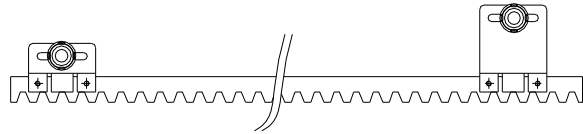
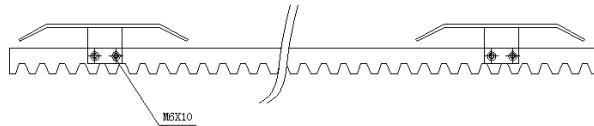

Fig.5
Fig.6
- Install the limit block as shown in Fig.5 and Fig.6. The spring limit switch and blocks are used to control the position of the gate.
- Install the limit block as shown in Fig.5 and Fig.6. The magnetic of limit switch and blocks are used to control the position of the gate.